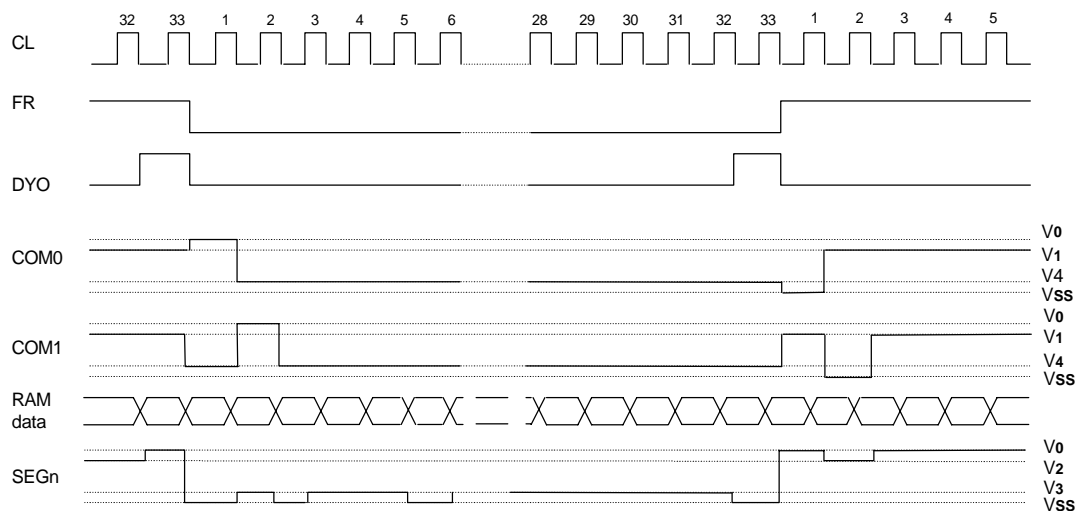

Figure 5.
When an AC signal (FR) is switched, a high pulse is output as a DYO output at the turning edge of the previous display clock. Refer to Figure 5. The DYO output is output only in master mode.
This is a multiplexer circuit consisting of 100 segment outputs to generate four-level LCD panel drive signals. The LCD panel drive voltage is generated by a specific combination of display data, a COM scan signal, and a FR signal. Figure 5 gives an example of SEG and COM output waveform.